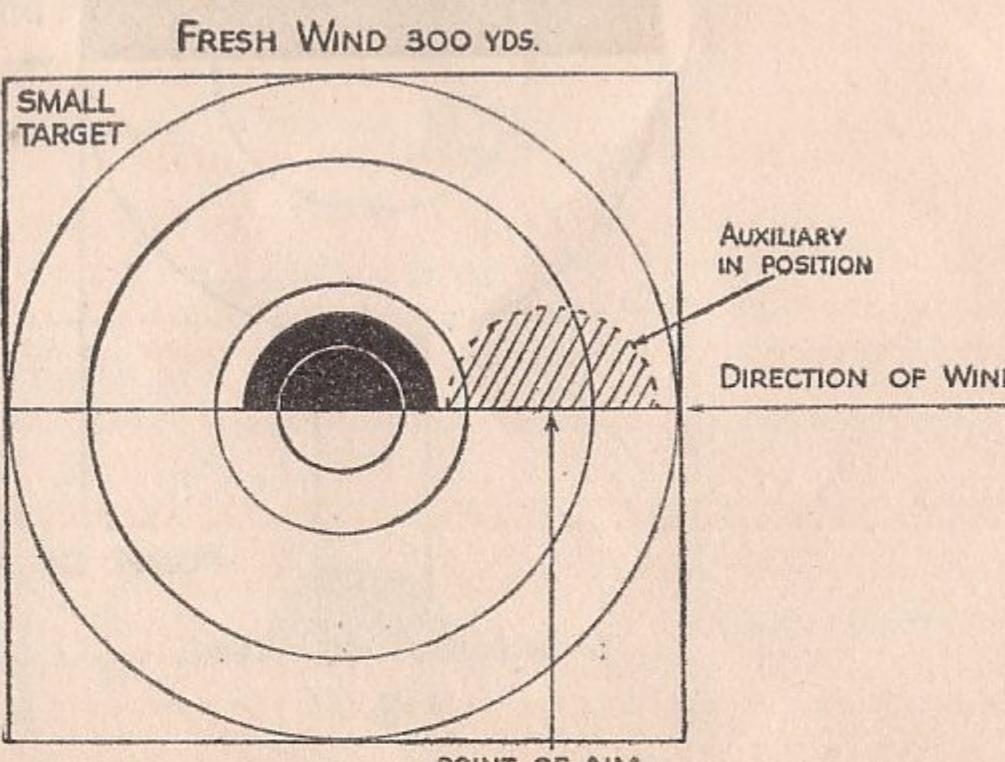

Fig. 8.
- Check aims by auxiliary aiming mark (*see Fig. 8*).